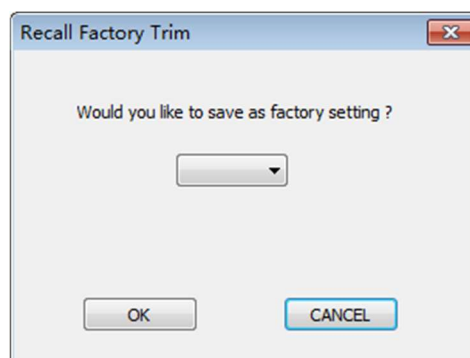

Figure 5.34 Save to factory settings
1. Click the "Calibration"->"restore factory settings"->"save to factory settings", pop up "save factory settings" window, as shown in Figure 5.34:错误!未找到引用源。